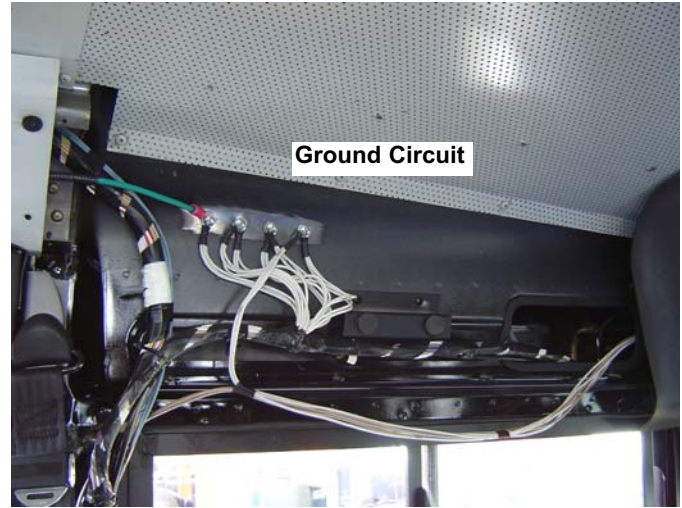

Figure 3
- c. Insert ground circuit over driver's window. **Figure 3**